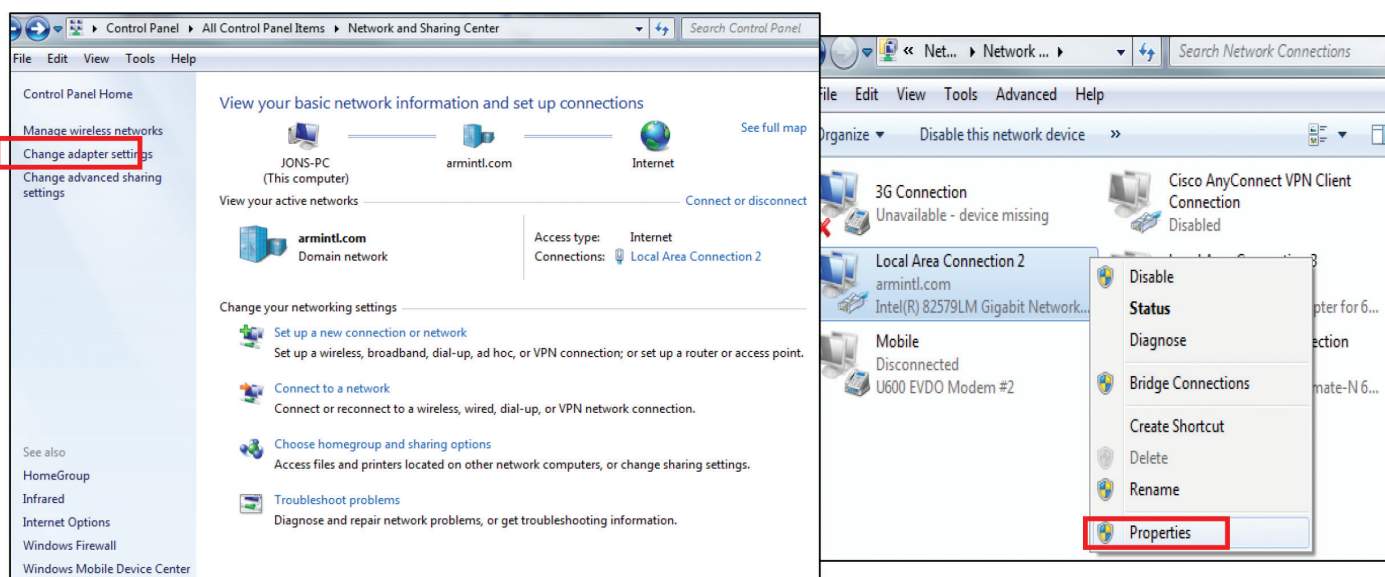

Figure 1: “Change adapter settings” Window
3. Click “Change adapter settings” on the left side of the window (**see Figure 1**).